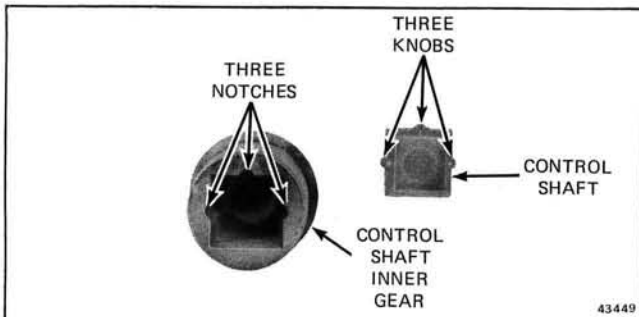

Figure 6-16. Aft Throttle Gear and Shaft Alignment
8. Position lower motor cover on exhaust housing. Lubricate with OMC Anti-Corrosion Lube, and install control shaft inner gear. You will notice that the control shaft has three knobs that fit into notches in the control shaft inner gear. See Figure 6-16. Align inner gear with shaft and install in lower motor cover.